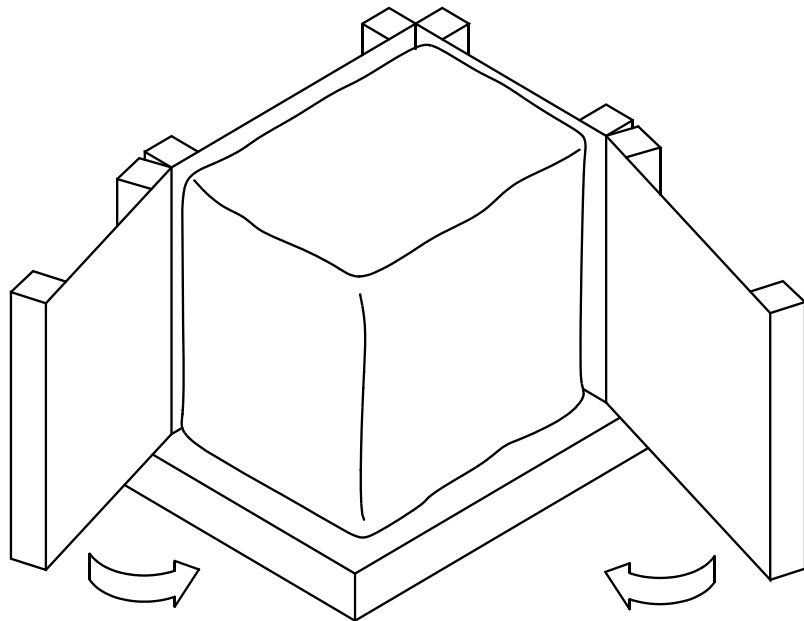

Figure 7-7 Placing the cushioned packaging around the library
4. Place the cushioned packaging around the library, as shown in Figure 7-7. (Use the alignment holes in the packing pieces as a guide.)